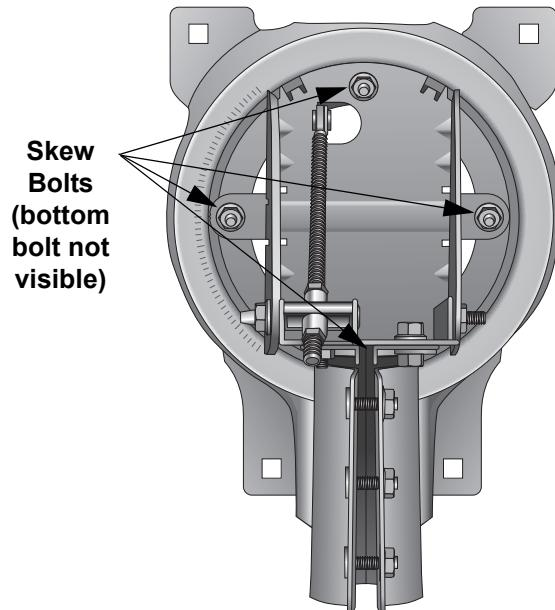

Figure 2. Skew Plate
- 3** Attach the DISH 1000.4 LNB Arm to the DISH 500+. The LNB Arm has a specific orientation, indicated by the labeling Top and To LNB. When attaching the DISH 1000.4 Bracket to the LNB Arm, be sure that the small posts on the bracket fit into the holes on the LNB Arm (see Figure 2). Connect a temporary cable to a peaking meter. Thread the other end of the cable through the LNB Arm and bracket. Connect the temporary cable to **PORT 2** of the DPP 1000.4 LNB and attach the bracket with two screws.